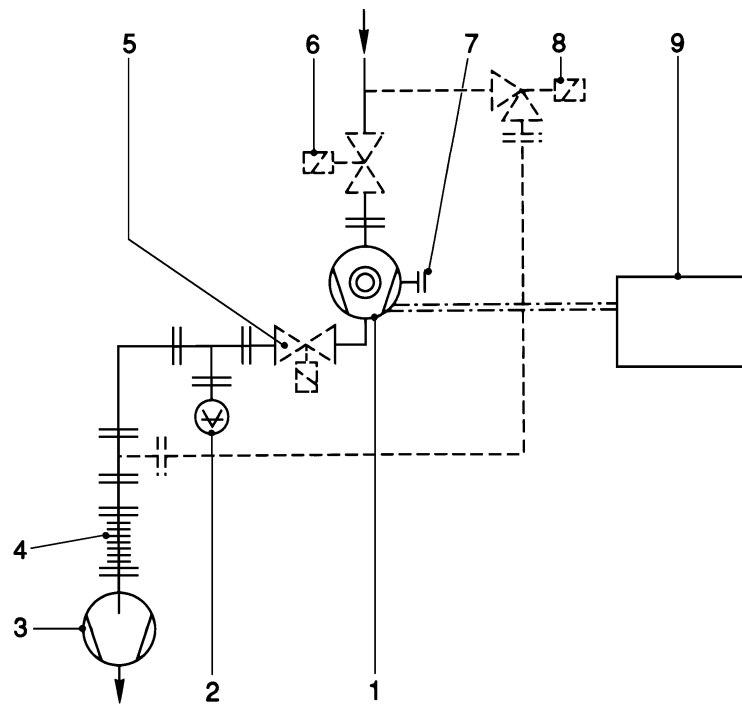

Fig. 16 Layout of a turbomolecular pump system
**Key to Fig. 16**
Fig. 16 shows schematically the design of a pump system incorporating a MAG with an additional foreline valve and an isolation valve between chamber and MAG.